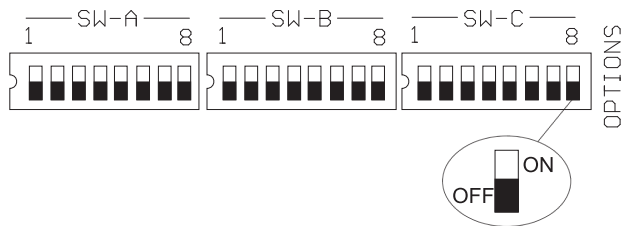

Figure 3. Micro switches
board of the panel there are three (3) sets of micro switches modules SW-A to SW-C. Every module consists of 8 micro switches No.1 to No.8 as shown on Figure 3. Their position during hardware reset define the effective configuration. Hardware reset is performed either during power up or after pressing the button labeled SW-RESET on the PCB (see section 1).